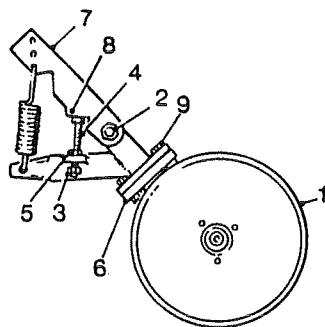

FIG 7
Provision is made to fit discs (Item 1 fig 7) to run in front of the side shields. The discs are beneficial when a crust has formed on the land as they will ensure the crust is cut close to the plant without damage to the crop. The discs are fitted with a spring to eliminate damage to the disc and simultaneously holding it firmly in the ground.
The discs are adjustable for depth of cut and the spring is adjustable for tension. To adjust the depth of cut release the disc assembly by loosening the fixing bolt (Item 2 fig 7) and move the disc either up or down to obtain the required depth and resecure. To adjust the tension of the spring move the setscrew (Item 4 fig 7) away from the stop plate (Item 8 fig 7) and remove the disc leg (Item 6 fig 7) from the spring anchor (Item 7 fig 7). Now the spring can be repositioned in either the upper or lower hole in the spring anchor (Item 7 fig 7). Re-assemble and position the setscrew (Item 4 fig 7), ensuring that the head of the setscrew is flat against the stop plate (Item 8 fig 7).
Mostly the front edge of the disc is set $\frac{1}{8}$ " outside the line of the side shield, although in some cases it may be found necessary to alter this position. The adjustment is made by altering the position of the disc leg (item 6 fig 7) in relationship to the spring anchor (item 7 fig 7). To adjust loosen the retaining bolts (item 9 fig 7) and reposition the disc leg (item 6 fig 7) and retighten. The angle of disc can also be adjusted using same method as previously described.
<p>FIG. 2 Row width 14 inch to 16 inch 2 x 4 inch (102 mm.) 'A' blades 1 x 7 inch (178 mm.) 'A' blade 10257 - 10258 front support leg 10323 rear support leg</p>	<p>FIG. 7 Row width 12 inch to 14 inch 1 x LH 'L' blade 1 x RH 'L' blade 10255 - 10256 front support leg 10323 rear support leg</p>